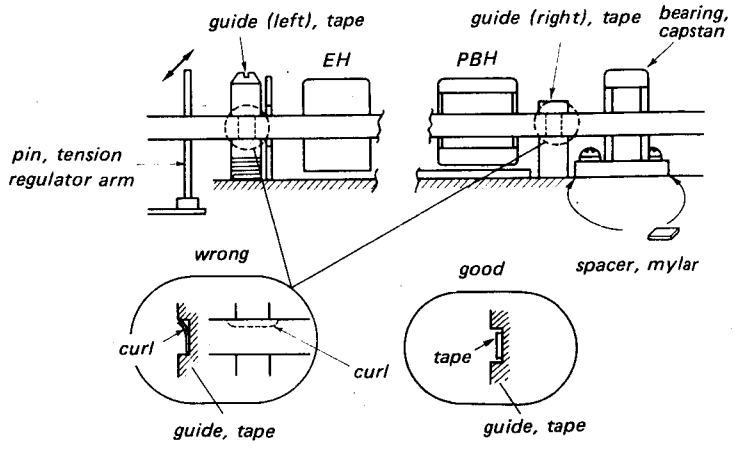

Fig. 12-7 Tape curl adjustment
- (1) Set the machine at 4.8 cm/s (17/8 ips) tape speed.
- (2) Be sure that the tape comes in contact with the two tape guides exactly as shown in Fig. 12-7.